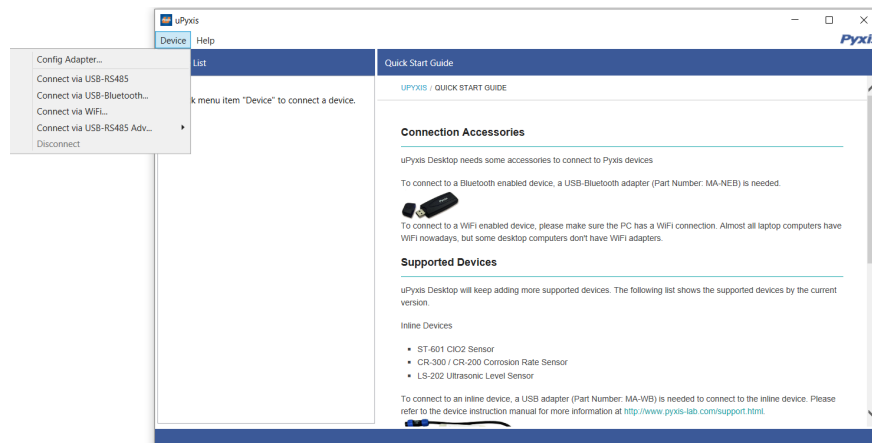

Figure 13.
3. On **uPyxis®** Desktop App, click Device → **Connect via USB-Bluetooth** or **Connect via USB-RS485** (Figure 13).
4. If the connection is successful, the ST-500 Series and its Serial Number (SN) will be displayed in the left pane of the **uPyxis®** window.